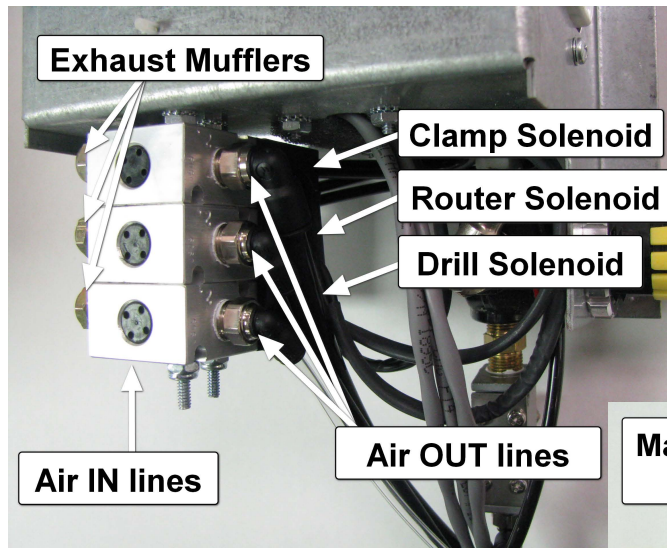

Fig 5b
5. If both clamp actions are smooth and quick the Clamp Cylinder is operating properly. Continue troubleshooting the Clamp Cylinder Air Line, the Exhaust Muffler on the Clamp Solenoid and the Clamp Solenoid. **See Fig 5b and 5c.**